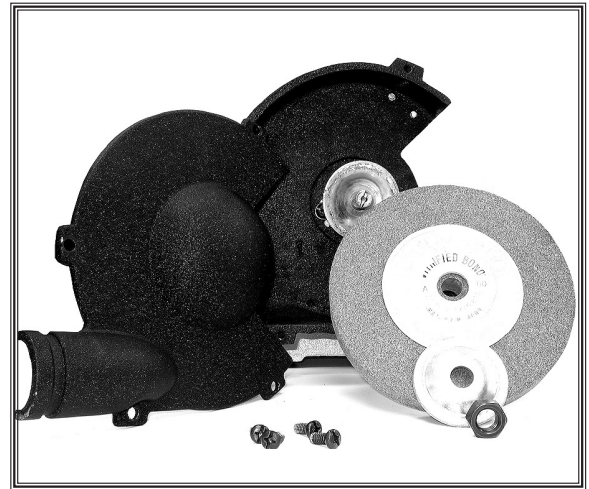

Figure 8. Grinding wheel access.
2. Disassemble grinder to the level shown in **Figure 8**.
4. Install the new wheel in the order shown in **Figure 8** and tighten the arbor nut snugly, but do not over tighten or you will crack the wheel.